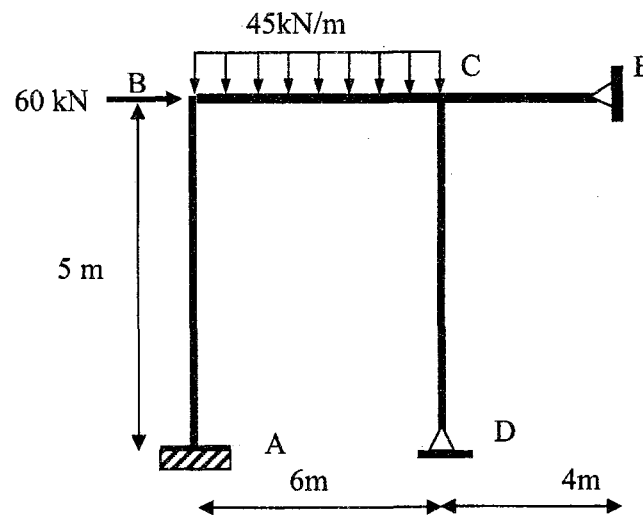

Figure 5
4. Figure 5 shows a frame carrying a uniformly distributed load of 45 kN/m on span BC and a horizontal load of 60 kN at joint B. Support A is fixed and supports E and D are pinned. Assuming that EI is constant, determine the internal moments at the joints of the frame by using the Moment Distribution Method. Subsequently, sketch the deflected shape and bending moment of the frame. (Fixed end moment formula are given in the APPENDIX).